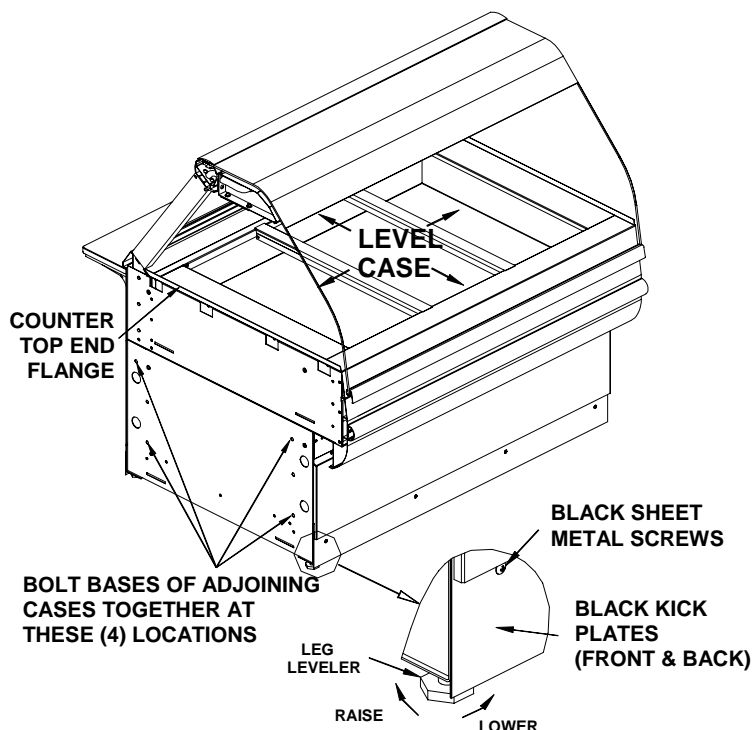

Figure 1. Floor Model - Leveling & Kick Plate Mounting
Deli cases must be installed level to insure proper operation and alignment to adjoining equipment. Use a carpenter's level as shown in Figure 1. Begin lineup leveling from the highest point of the store floor.
1. Level the case using the leg levelers at the corners of the case (Figure 1). 8 ft. cases have an additional pair of leg levelers in the center – don't forget to adjust these too.
6. When level, bolt the two cases together at the locations shown in Figure 1.
1. Slide the front kick plate (the wider of the two) behind the lower finished front panel of the case (see Figure 1).